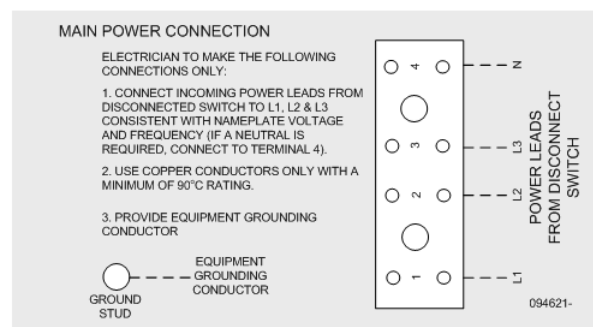

Figure 3-3 Sample Label
- Refer to the label in the electrical box to configure your unit, see Figure 3-3.